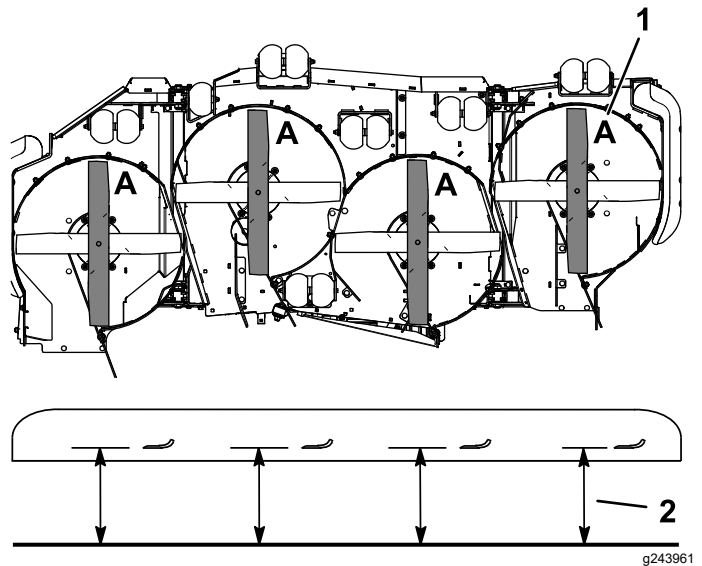

Figure 77
4. Measure from a level surface to the cutting edge, position A, of the blades (Figure 77).
3. Rotate the blades until the ends face forward and backward (Figure 77).